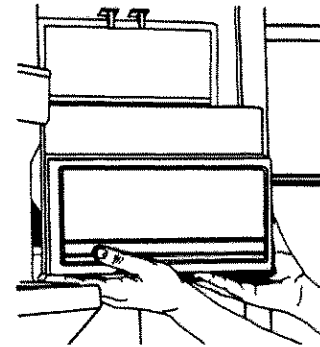

Figure 37
- c. Lift up slightly on ice bin and pull out. Thaw/discard ice and return bin to freezer. See Figure 37.